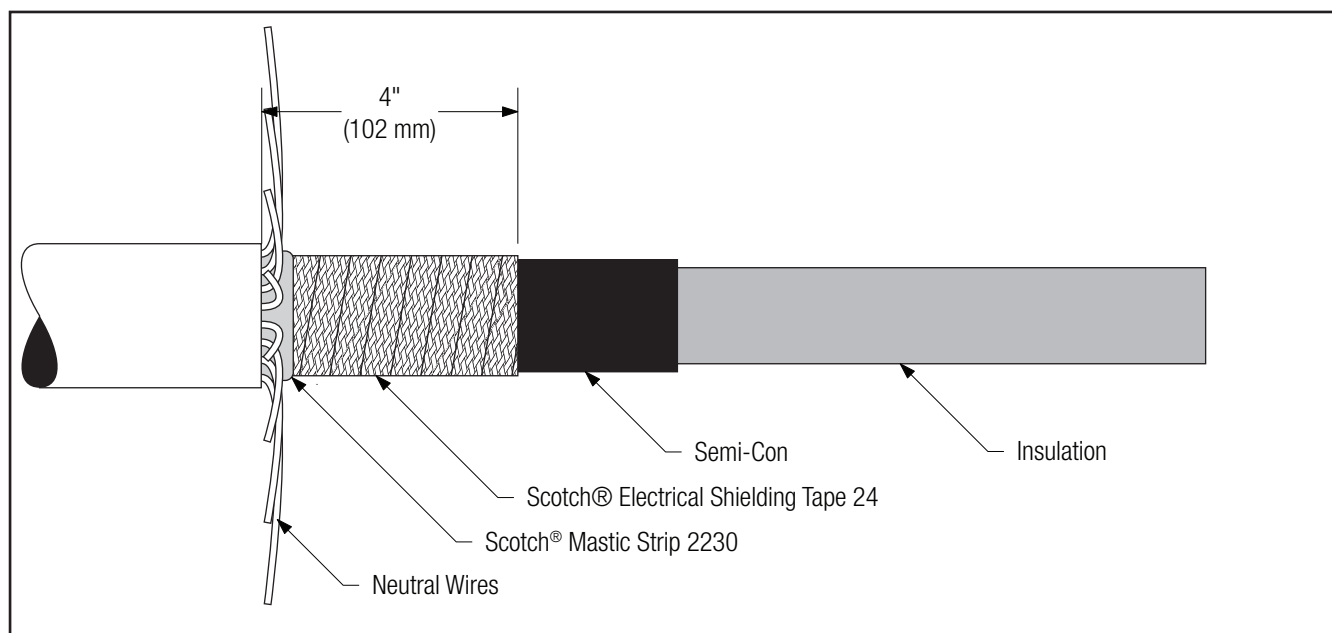

Figure 3
2.5 If using JCN or Flat Strap Cable: Mark the cable semi-con 4" (102 mm) from the cable jacket edge. Apply two half-lapped layers of Scotch® Electrical Shielding Tape 24 over the cable semi-con, starting from the mastic edge out to the mark on the semi-con and back. Half-hitch to tie off (*Figure 3*).